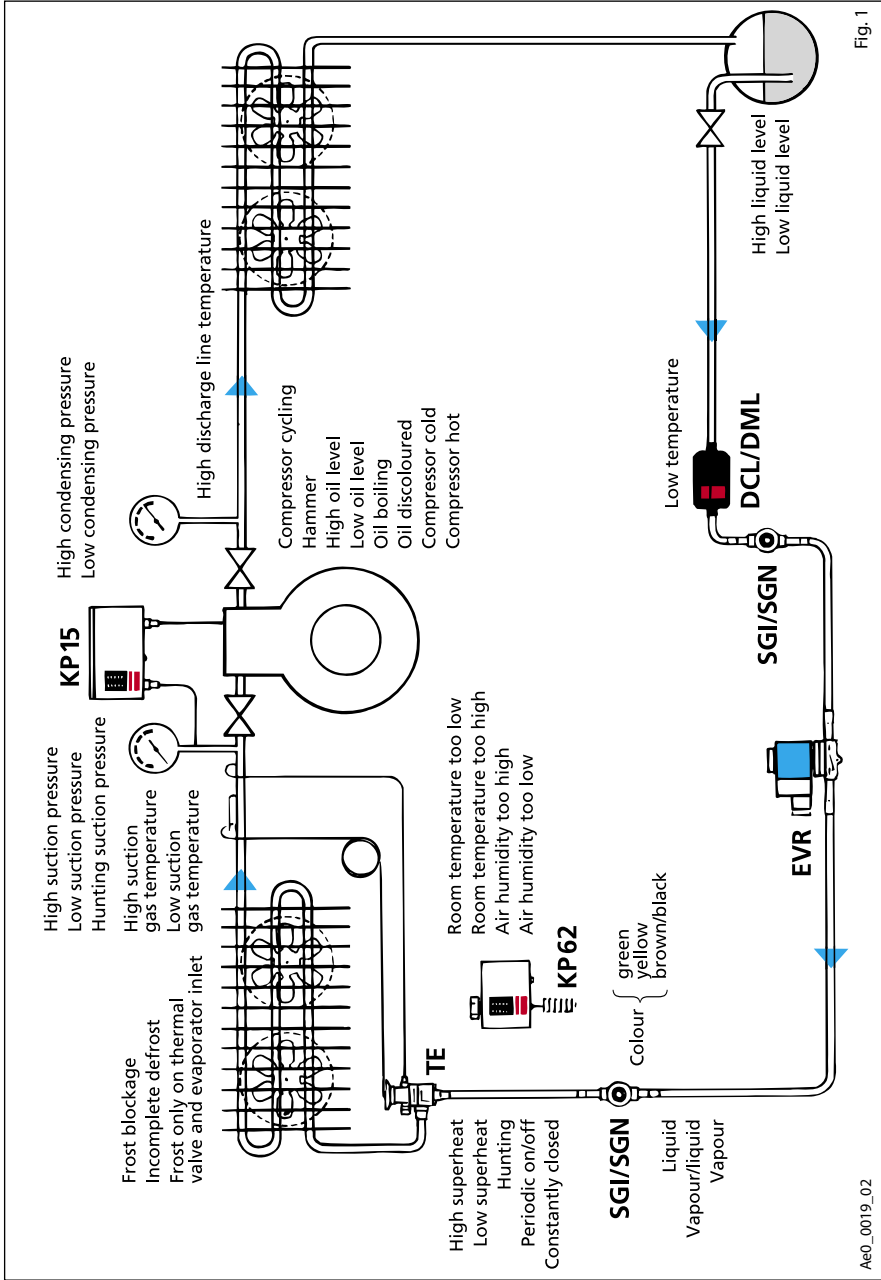

Fig. 1
In the following description of faults in refrigeration systems, sections 1 and 2 take as their starting points the piping diagrams, figures 1, 2 and 3.
**Follow the arrows in the diagrams, figs. 1 and 3, p. 10/12.